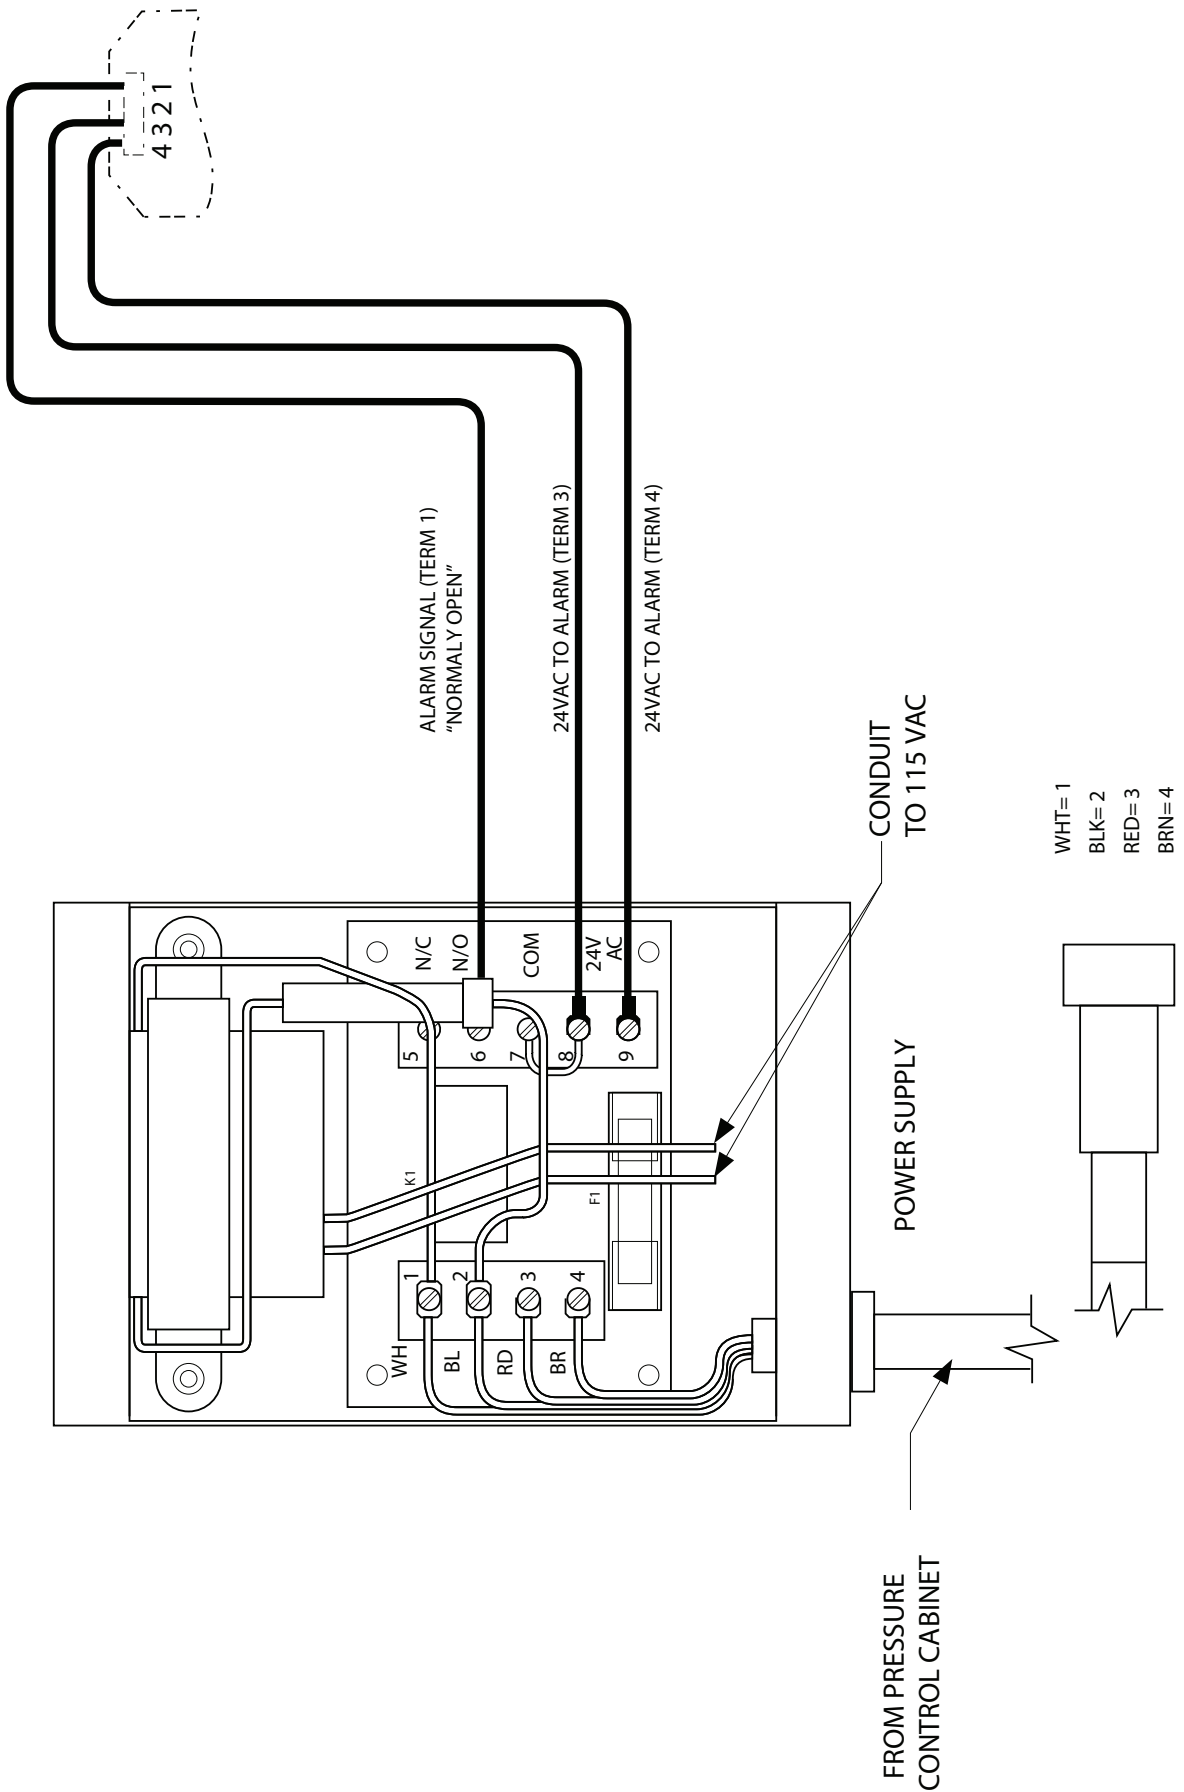

Figure 6: Header Wall Mounting Bracket
8. Mount the power supply in a location convenient to the pressure control cabinet. Using conduit connect 115 VAC power wiring to the free leads of the power supply as shown in electrical drawing (Figure 6).
9. For remote alarm electrical connection, use electrical wiring drawing shown in Figure 6.